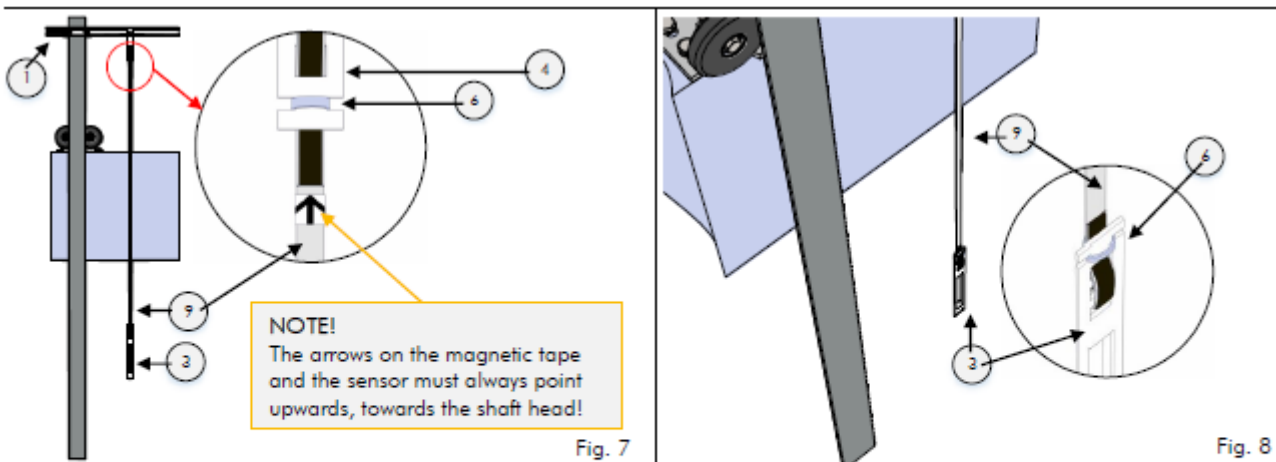

FIG 7 & 8
This step must be done with the tape fixture (4) inside the crossbeam (1). Thread the tape through the tape fixture (4) and back down, as shown (FIG 6). Mind the orientation of the tape (FIG 7) – the magnet side must face the sensor body later on. Basically, the fixture works like a self-locking belt. Leave at least 20 cm tape at the spare end. Press the loops flat in the clamp. There should be a break in the upper loop. In the end, secure the tape with a cable tie (6) at the bottom of the tape fixation (4).